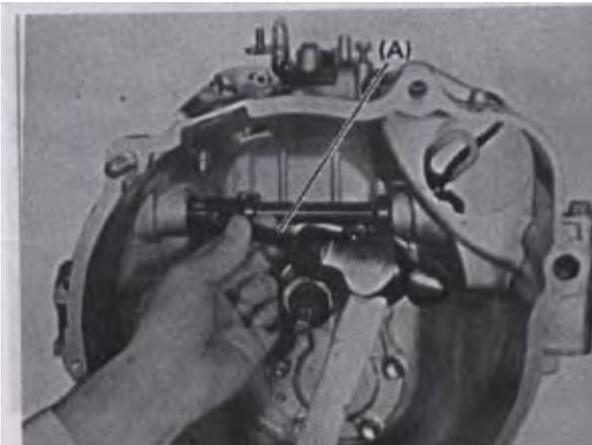

Fig 10-9
- (3) Remove clutch release lever from shaft. With clutch release bush remover (A) (special tool) applied in such a position as shown in FIG. 10-9, tap its end to take out bush. If bush can not be taken out of transmission case in the above manner, grip bush with pliers or the like and pull out.